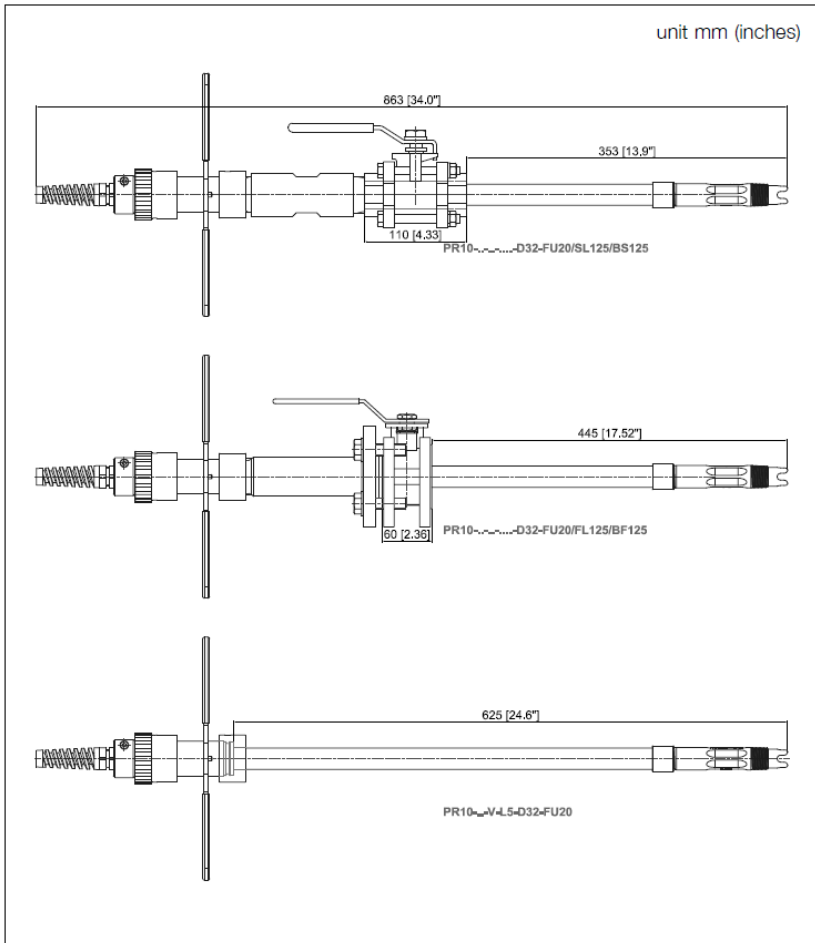

Figure 6: Dimensional drawing PR10...-D32 with mounted FU20 sensor
- Other mounting examples of the FU20-FTS/ MTS are given in Figure 6 and 7.